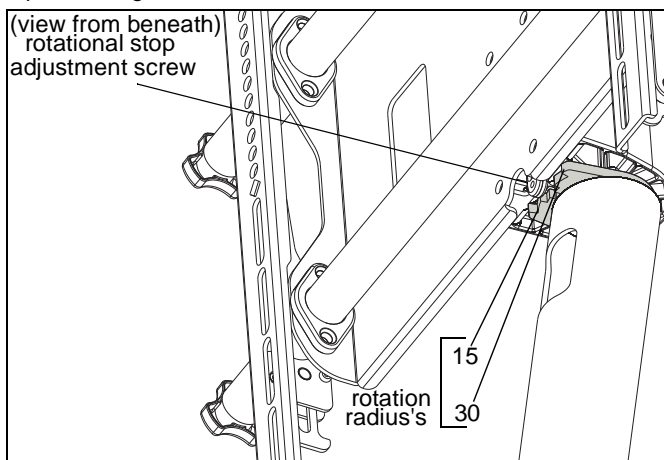

Figure 5
12. Use the 5/32" security hex key (Z) to loosen rotational stop adjustment screw until desired radius is achieved. (See Figure 5)